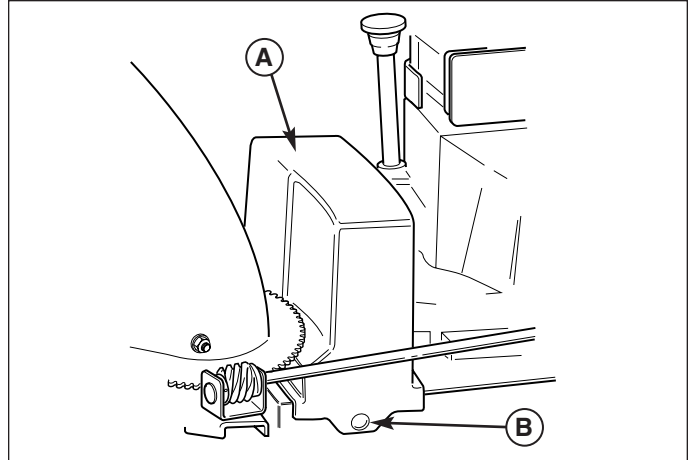

Figure 22. Belt Cover
1. Turn off the engine, remove the spark plug wire, and wait for all moving parts to stop. Rotate the spout full right. Loosen the two screws (B, Figure 22) securing the belt cover.